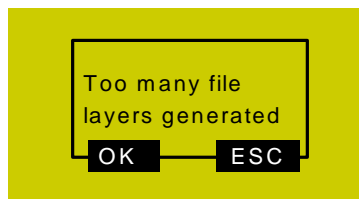

Fig. 6-6 Warning dialog when parameters not properly set
- 2) If the input value of “EngrDpth” is too big, the system will send the warning information “Too many file layers generated, continue?”, as shown in Fig. 6-6. You can press [ESC] to back to modify the value; or press [OK] to load the file anyway, the system staying in the page shown in Fig. 6-6. At this time, if you press a key, its function will not be executed until this dialog box disappears, so it is not allowed to press any key under this state. You can wait patiently until the file is successfully loaded, or you can power off and re-power on the system.